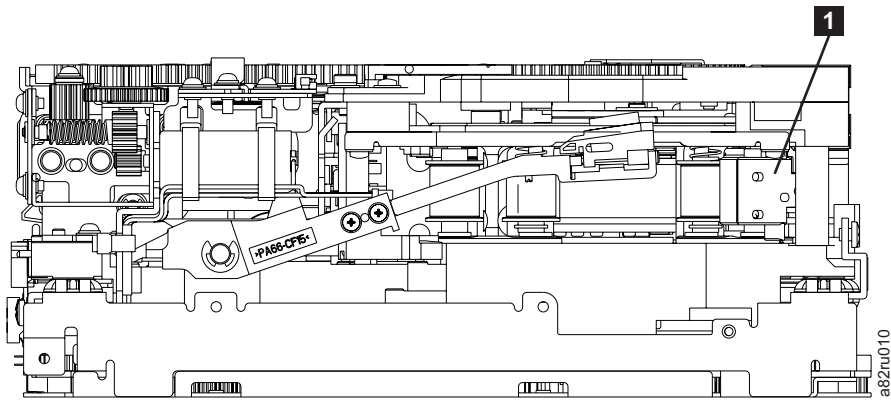

Figure B-5. Leader Block Assembly (LBA)
7. Rotate the threader motor worm gear (**4** in Figure B-4 on page B-7) to turn the threader mechanism gear (**6** in Figure B-4 on page B-7) counterclockwise. This moves the LBA out of the cartridge and past the read/write head. Stop this rotation when the LBA is near the tape guide roller nearest the rear of the drive (**1** in Figure B-5).